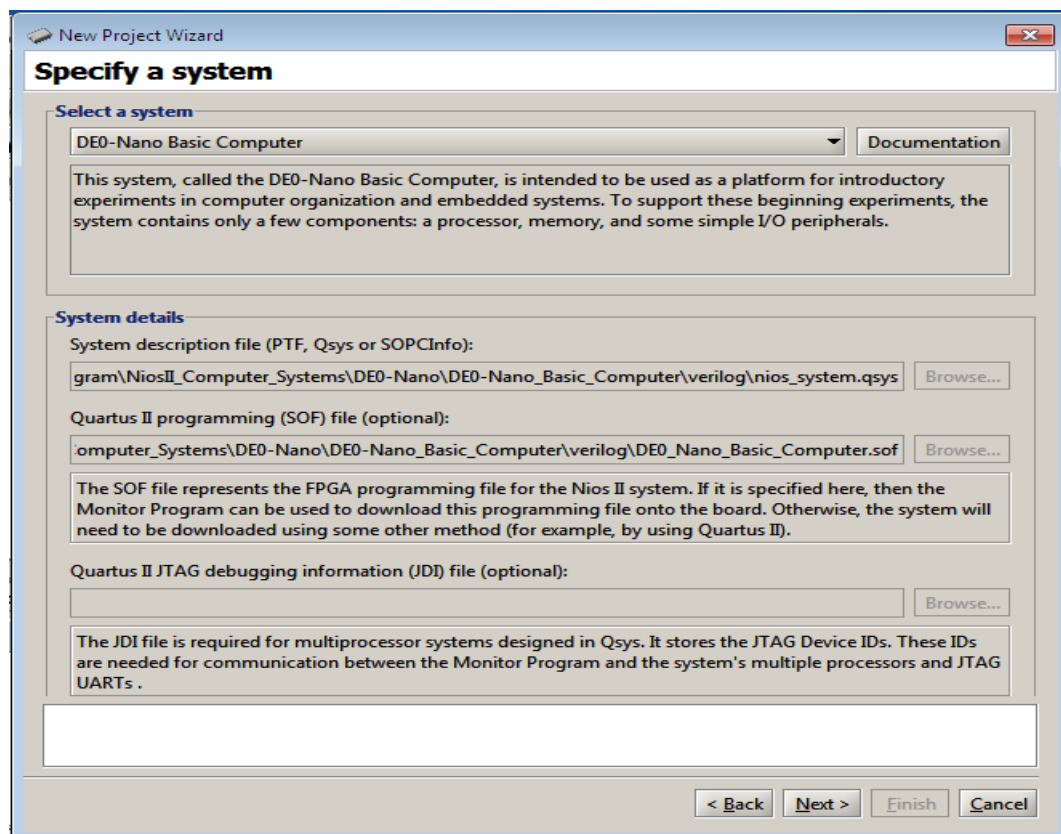

Figure 4: Specification of the system.
have chosen the project name part1 in the directory lab1_part1, as indicated in the figure. Click Next, to get the window in Figure 4.
5. The Monitor Program will display the disassembled view of the code loaded in the memory, as indicated in Figure 14. Note that the pseudoinstruction `movia` in the original program has been replaced with two machine instructions, `orhi` and `addi`, which load the 32-bit address `LIST` into register `r4` in two 16-bit parts (because an immediate operand value is restricted to 16 bits). Examine the disassembled code to see the difference in comparison with the original source program. Make sure that you understand the meaning of each instruction. Observe also that your program was loaded into memory locations with the starting address zero. These addresses correspond to the SDRAM memory, which was selected when specifying the system parameters. The DE0-Nano Basic Computer has two more memories which are the on-chip memory (i.e. the memory on the FPGA chip) and the SRAM chip on the DE0-Nano board. See the document Basic Computer System for Altera DE0-Nano Board for full information. This document can be accessed by clicking on the Documentation button in Figure 4.